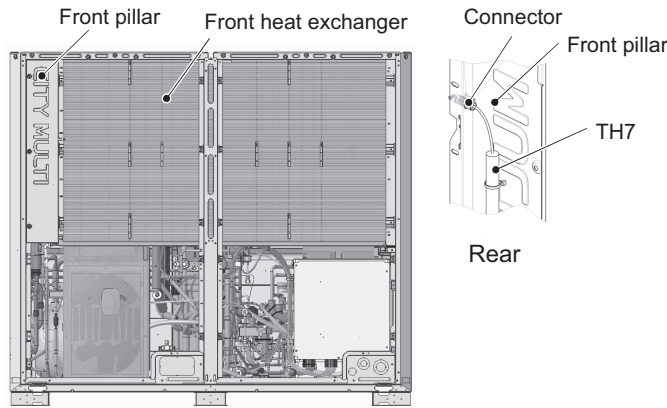

Figure 11
- (12) Remove the front pillar by unscrewing the 7 screws. (See Figure 11.)
(13) Disconnect the TH7 sensor holder from the front pillar. (See Figure 11 Rear.)